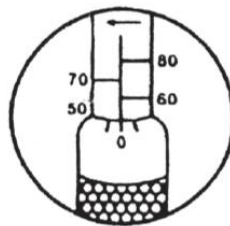

FIG1 50FT-LB
3. Lock handle securely by turning lock nut clockwise, and now wrench is set at 56 ft. Lbs which is ready to use. See Figure 1 and 2.